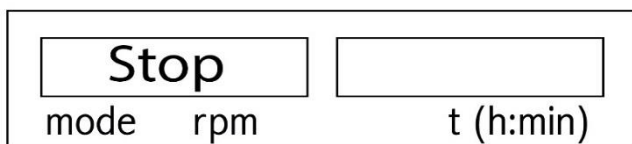
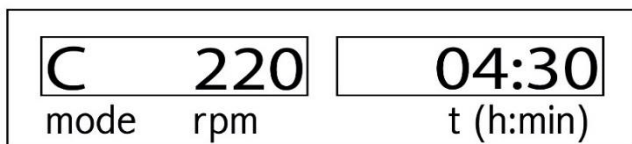

Figure 25: Operating Mode C – device is stop working
Figure 26: Operating Mode C – device is ready to work
- When the device is rotating, by pushing the left rotary knob the device will stop working after few seconds while displaying "Stop" word (figure 25) on the display. Now device is ready to work again. (figure 26)